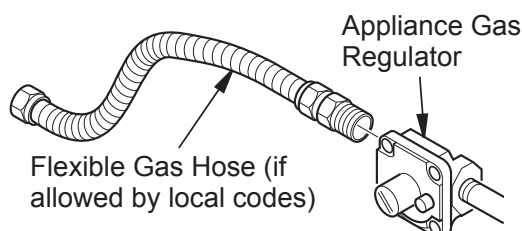

Figure 10 - Attaching Flexible Gas Hose to Appliance Gas Regulator
1. Apply pipe joint sealant lightly to male threads of the 3/8 NPT side of gas fitting and connect to inlet side of gas control. Remove gas fitting from flexible gas hose (provided) before connecting to elbow (see *Figure 10*).